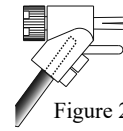

Figure 2
2. Attach the previously prepared bare wire cable ends into the banana plugs and secure the connections. Refer to figure 2.